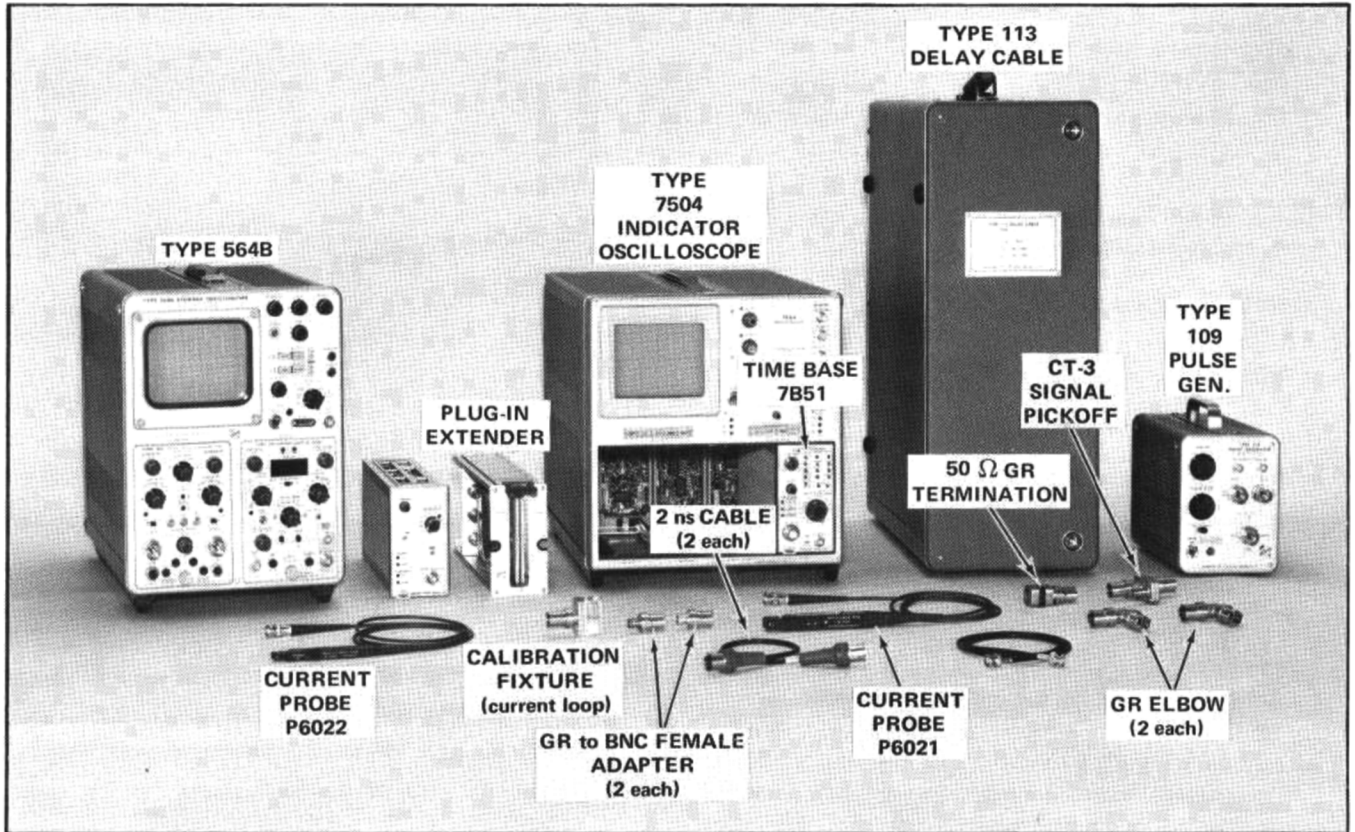

Fig. 5-4. Test equipment setup for step 7.
- Test equipment setup is shown in Fig. 5-4.